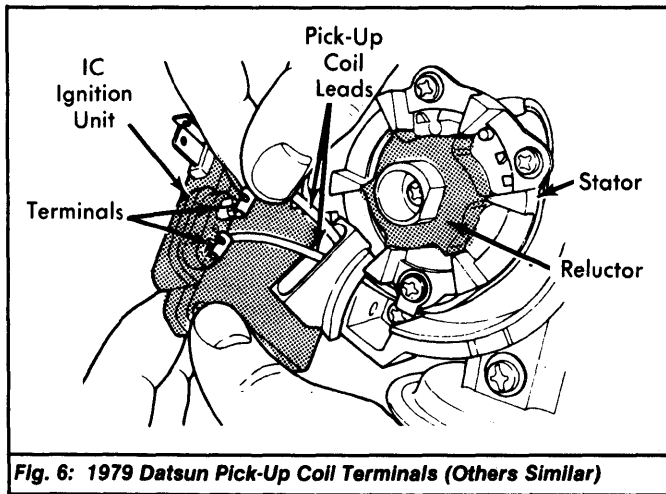

Fig. 6: 1979 Datsun Pick-Up Coil Terminals (Others Similar)
- 1) To reassemble distributor, reverse disassembly procedure. Clean surfaces of ignition unit and distributor before assembly. Ensure pick-up coil leads are securely attached to ignition unit terminals. See Fig. 6.